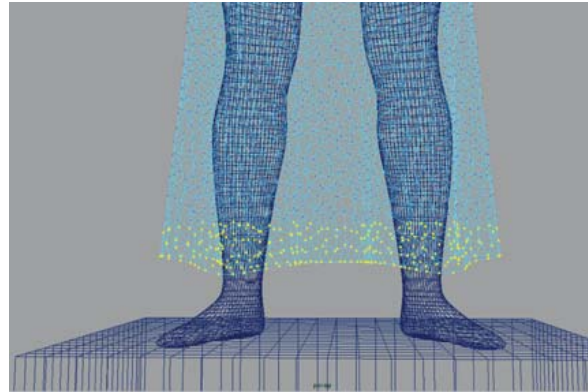

Figure 1.24: Selection of vertices where the gravity field applies. A larger selection will have a greater overall effect on the garment.
2. Select the area of the skirt where you want to apply the field (see Figure 1.24), Shift+select the gravity field, and choose **Constraints** → **Field**.